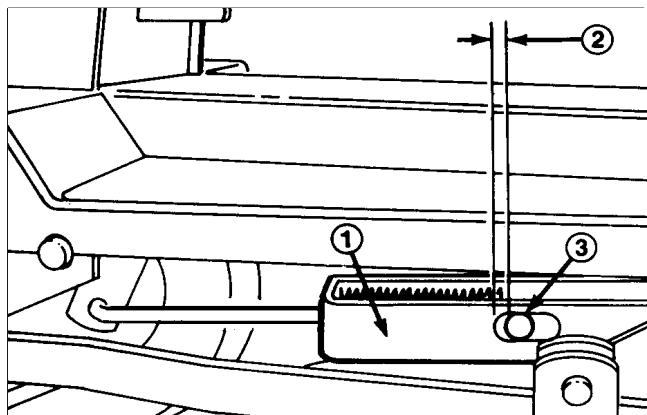

Figure 23
3. Rotate adjustment rod until there is 0.060 inch (1.5 mm) or less between end of slot in engagement bracket and outer diameter of pin (Fig. 23).